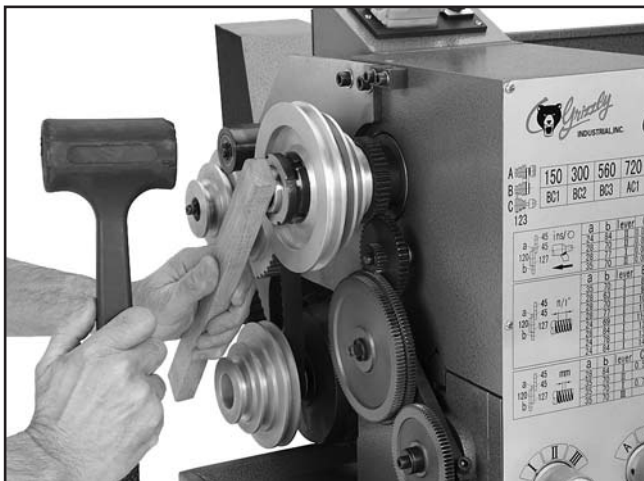

Figure 80. Producing detectable spindle end-play.
6. Place a wooden block over the outboard end of the spindle, and hit it soundly with the heavy dead blow hammer (see **Figure 80**). Your goal is to slide the spindle forward just enough to introduce spindle end-play that you can feel by hand.